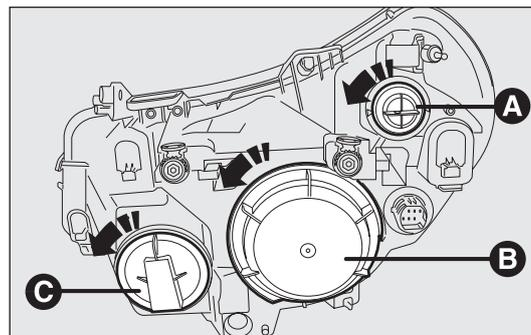

fig. 180
To replace the main beam bulb/daytime lights, remove plug C-fig. 180.
To replace the dipped beam/side light bulb, remove plug B-fig. 180.
To replace the direction indicator bulb, remove bulb holder A-fig. 180.
- remove protective cover B-fig. 180 by turning anticlockwise;
- refit protective cover B-fig. 180 by turning it clockwise, making sure to lock it correctly.
- remove protective cover C-fig. 180 by turning it anticlockwise;
- refit protective cover C-fig. 180 by turning it clockwise, making sure to lock it correctly.
- remove the protection cover C-fig. 180 by turning counter-clockwise;
- remove protective cover B-fig. 180 by turning it anticlockwise;